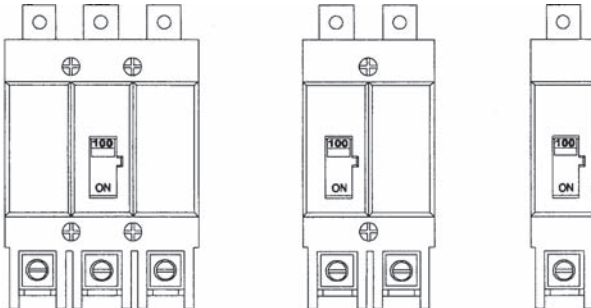

Fig. 1-1 GHB 1,2 and 3 Pole Circuit Breakers and GDB 2 and 3 Pole Circuit Breakers.
GHB circuit breakers (Fig. 1-1) (hereafter referred to as circuit breaker) are thermal-magnetic 1, 2 and 3 pole devices available in ratings from 15A to 100A continuous current. The GDB circuit breakers (fig. 1-1)(hereafter referred to as circuit breaker) are thermal-magnetic 2 and 3 pole devices available in ratings only from 15A to 50A continuous current for the 2 pole and from 15A-100A continuous current for the 3 pole. These circuit breakers are listed in accordance with Underwriters Laboratories, Inc. Standard UL 489 (Procedure E7819), Volume B), Canadian Standards Association (LR43556), and satisfy the (PI) requirements of the International Electrotechnical Commission Standard No. IEC 157-1.